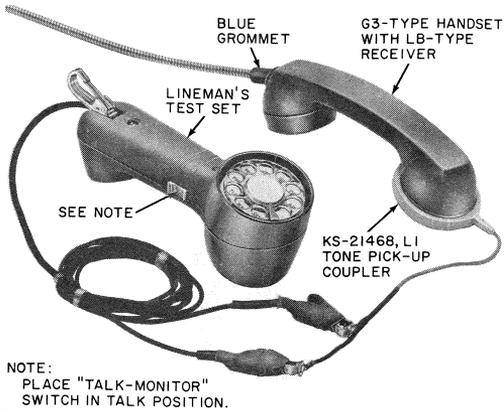

Fig. 54—KS-21468, List 1 Tone Pick-up Coupler
5.47 If there is a clearance problem between chute and cover unit assembly on the 1-type set, bend the horizontal guide flange, located adjacent to the coin slot inside cover, as shown in Fig. 54.